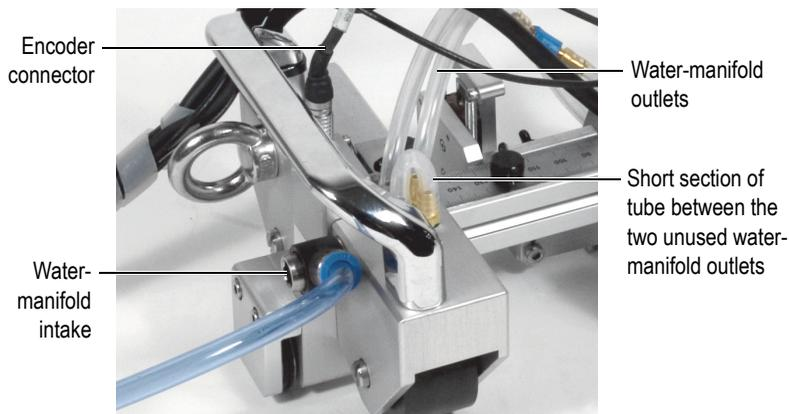

Figure 2-10 Scanner connections
2. Connect the encoder cable to the side of the scanner (carefully align the marks on the connector), and then connect the other end of the encoder cable to the instrument (see Figure 2-10 on page 25).
3. Connect the water-manifold intake to the feed system (see Figure 2-10 on page 25).
If only two out of the four water-manifold outlets are used, connect a tube between the two unused outlets (see Figure 2-10 on page 25).